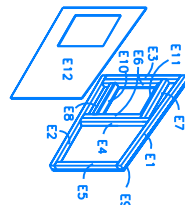

FIGURE 7
6) Component E. Lay out pieces E3, E4 and E5 between pieces E1 and E2 with the 7 degree angle matched to piece E1. (Fig 7). Nail through pieces E1 and E2 into the ends of pieces E3, E4 and E5 using 2 1/2" common nails. Place piece E7 on top of both pieces E6 and nail piece E7 to the top piece E8 located 4 1/4" from the bottoms of pieces E6. Nail through pieces E6 into the ends of piece E8 using 2 1/2" common nails. Fit this assembly between pieces E4 and E5 with bottom of pieces E6 on piece E2. Nail through pieces E3 and E4 into piece E6 using 2 1/2" common nails. Nail through piece E2 into the ends of piece E6 using 2 1/2" common nails. Nail through piece E8 on top of piece E6 using 2 1/2" common nails. Invert the assembly place insulation and place piece E12 on top flush with outside edges on E1, E2, E3, E4 and E5 using 1 1/2" common nails. Invert the assembly place insulation and place piece E12 on top flush with outside edges on E1, E2, E3 and E5. Nail to pieces E1, E2, E3, E4 and E5 using 1 1/2" common nails. Cut a strip of carpet 12" wide x 31 3/4" long. Make 12 1/2" cuts in each end of the carpet alternating positions of the cuts. (Fig 8). Fold the carpet around three sides of piece E11 and place in the doorway with E11 flush with piece E7 with carpet between them. (Fig 9). Nail through E11, the carpet and into E7 with 1 1/2" common nails. Nail on piece E10 to piece E8 using 1 1/2" common nails.